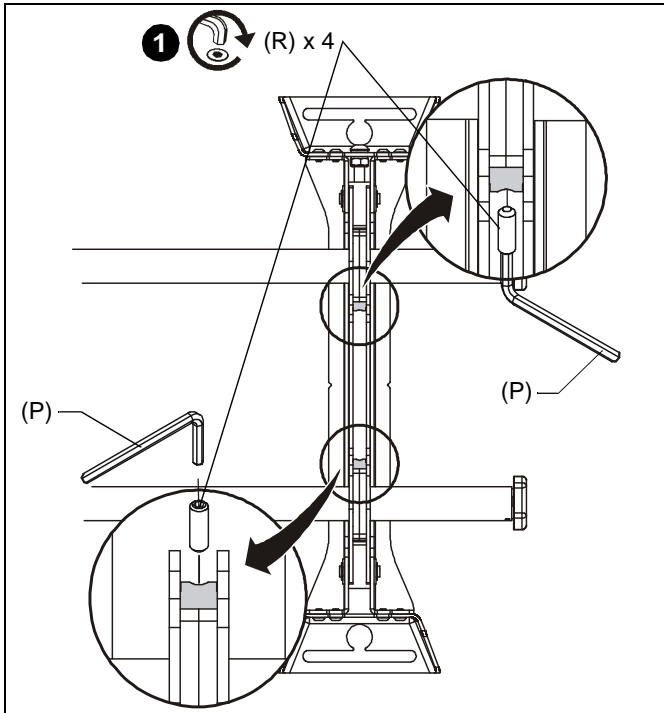

Figure 10
1. Lock rails into place using two 1/4-20 x 3/4" set screws (R) on mount upright (X) and the 1/8" hex key (P). (See Figure 10)
**NOTE:** To easily install upper set screw against upper rail, place set screw (R) onto hex key (P), and feed up into hole while turning to tighten.